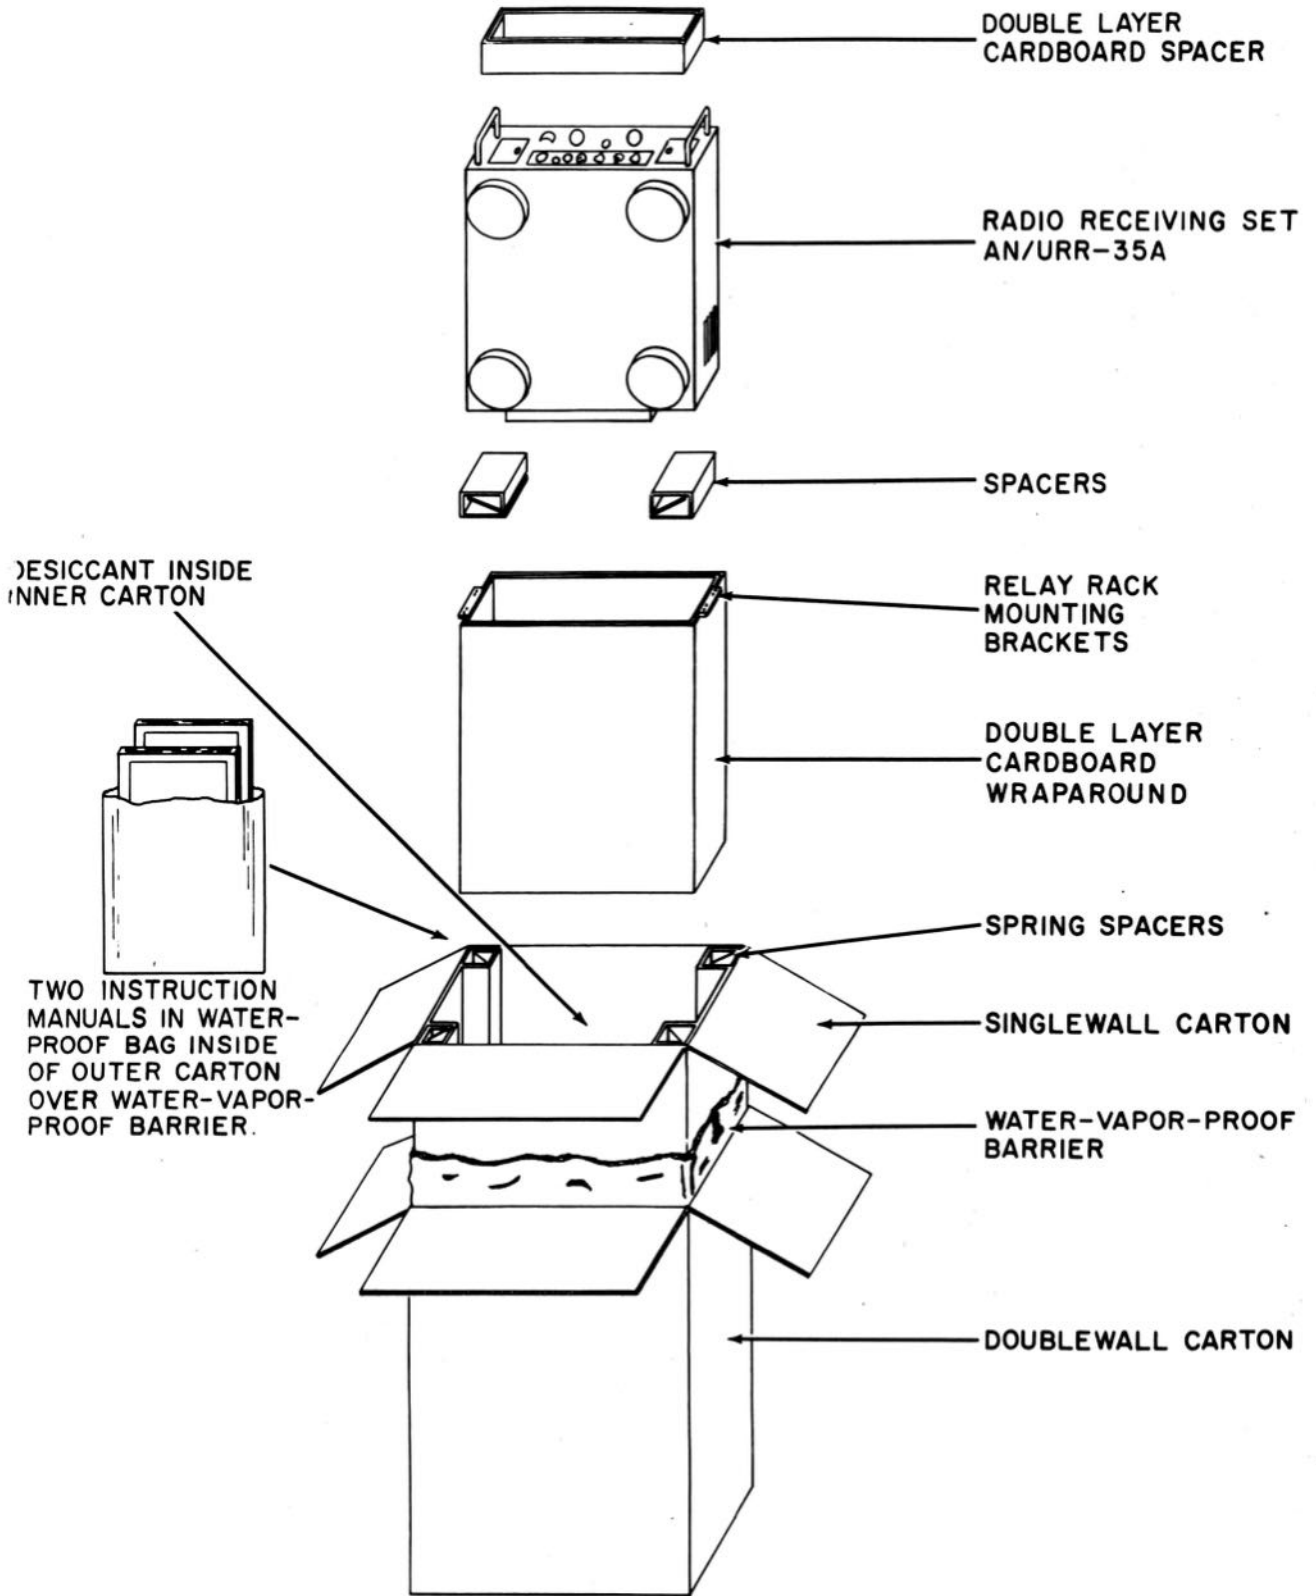

Figure 3-1. Packaging of Radio Receiving Set AN/URR-35C
a. GENERAL.—There are two cartons which together comprise one complete Radio Receiving Set AN/URR-35C. These are indicated as Shipping Boxes #1 and #2 in Table 1-3. Shipping Box #1 contains the Radio Receiver R-482C/URR-35 complete as shown in figure 1-1. Shipping Box #2 contains the maintenance spare parts which accompany each receiver. The method of packing Shipping Box #1 is shown in figure 3-1.